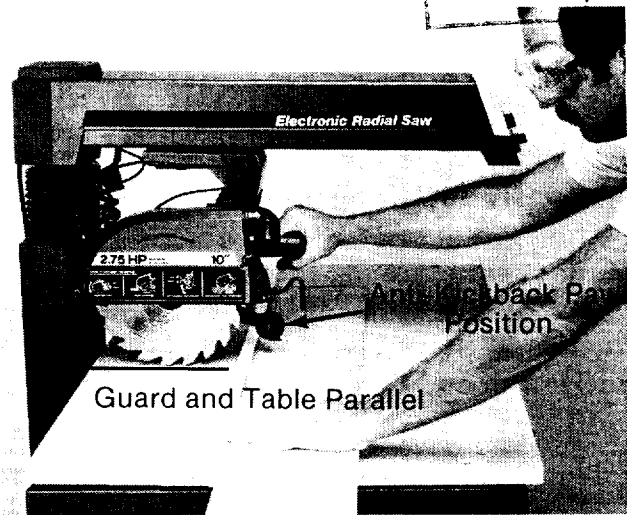

Fig. 110 Crosscut Blade Guard and Body Position
**WARNING:** To reduce the risk of contact with the upper half of the blade and keep the workpiece from jamming in the guard, set the blade guard in the horizontal position. Fig. 110.
⚠ WARNING: The blade guard must be horizontal to provide protection from contact with the upper half of the blade and avoid the workpiece being jammed in the blade. Set the blade guard in the horizontal position. Fig. 110.